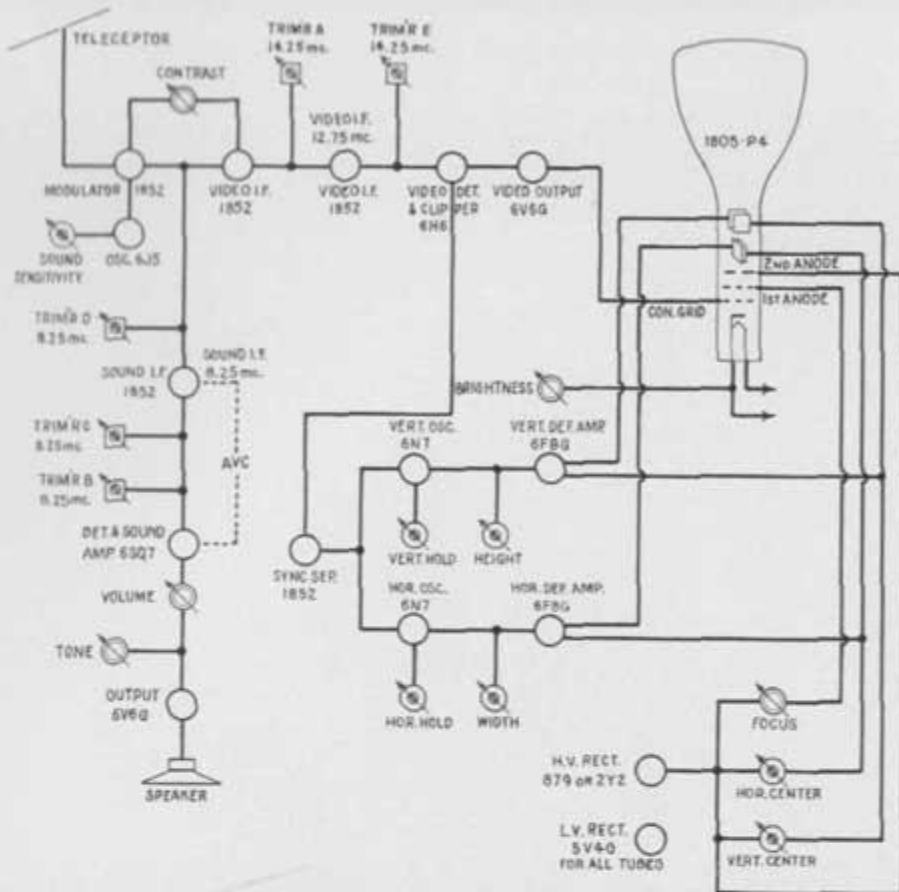

FIG. 42. BLOCK DIAGRAM OF THE ANDREA I-F-5 AND KT-E-5 MODELS, SHOWING ELEMENTS OF A TELEVISION RECEIVER.
The simplified diagram, Fig. 42, shows the tube types and their successive functions, and the locations of the various controls. You will see that this receiver has separate I.F. amplifying circuits for the video and audio frequencies. The former terminate in the picture tube controls, and the latter in the loudspeaker. Since the video and audio signals are transmitted on separate carrier frequencies, a single oscillator produces the two I.F. frequencies.
**Centering Controls:** The vertical and horizontal centering controls are actually variable biases on the vertical and horizontal deflecting plate, as you will see from Fig. 42.
**Rectifier Tubes:** A 5V4G tube supplies the plate and bias voltages to the receiving tubes. This rectifier circuit is similar to those in broadcast receivers. The 2,500-volt supply for the picture tube comes from a 2Y2 or 879 rectifier. This is the tube with the heavily insulated cap. Fig. 42 shows the application of the high voltage to the elements of the picture tube, and the use of the focus and centering controls in adjusting the voltages.